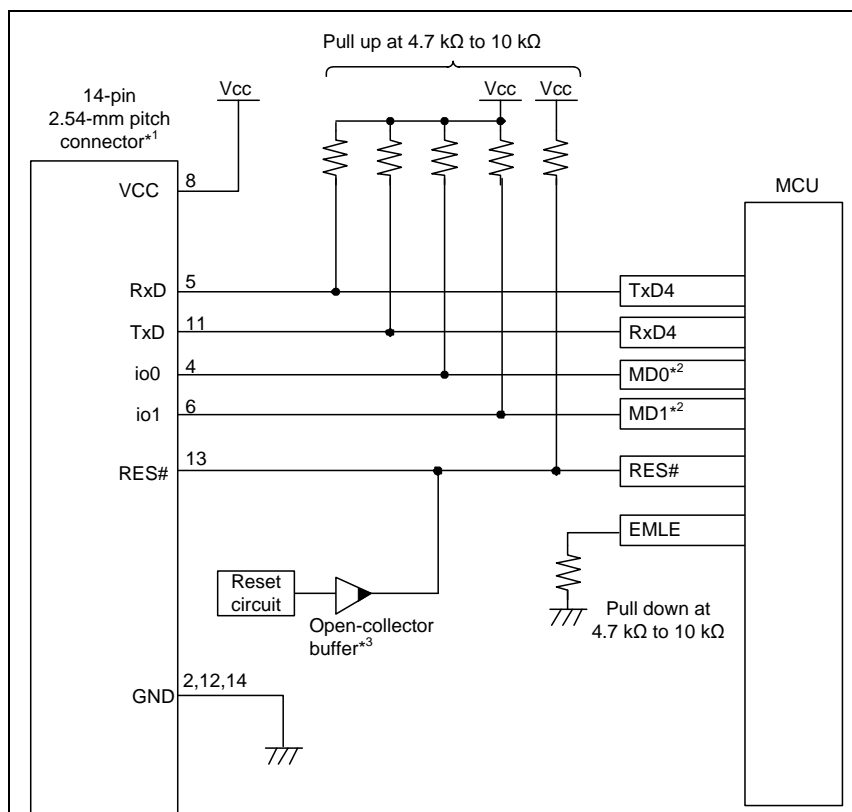
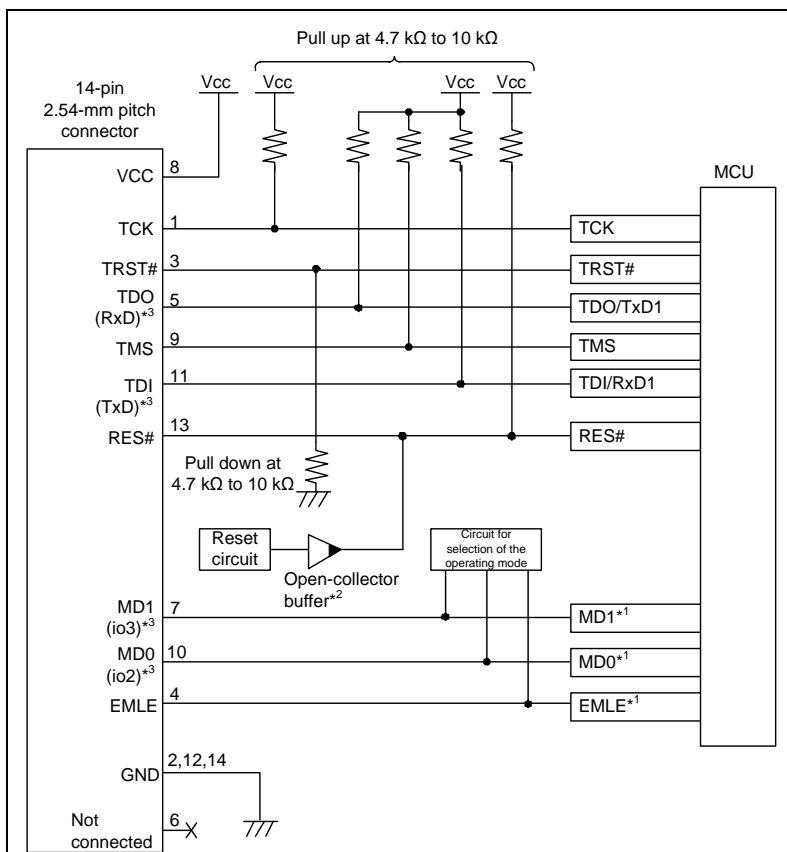

Figure 2.8 Example of Connection between the 14-Pin Connector and MCUs of the RX610 Group when Programming Software is Used (for Flash Programming)
Figure 2.9 Example of Connection between the 14-Pin Connector and MCUs of the RX621, RX62N, RX62T, and RX62G Groups in JTAG Interface Connection (for Debugging)
Figure 2.8 shows a recommended circuit for connection between the 14-pin connector and MCUs of the RX610 group when programming software is used.
Figure 2.9 shows a recommended circuit for connection between the 14-pin connector and MCUs of the RX621, RX62N, RX62T, and RX62G groups in JTAG interface connection.
- When using programming software to program flash memory, connect the emulator connector and target MCU with reference to Figure 2.8 for an MCU of the RX610, and Figure 2.9 and Figure 2.10 for an MCU of the RX621, RX62N, RX62T, or RX62G. In debugging, refer to Figure 2.15 for the connector numbers for emulator connection.